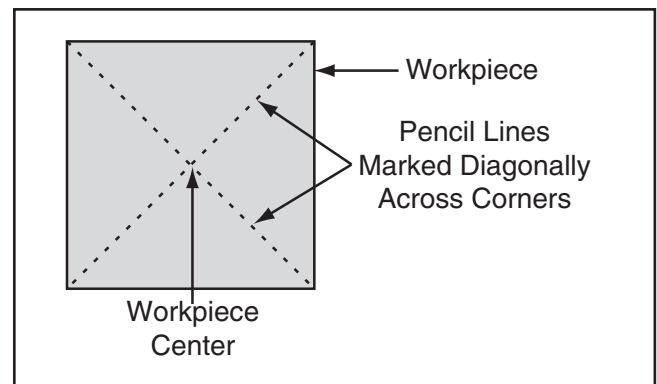

Figure 33. Workpiece marked diagonally from corner to corner to determine the center.
1. Find center point of both ends of your workpiece by drawing diagonal lines from corner to corner across end of workpiece, as shown in **Figure 33**.